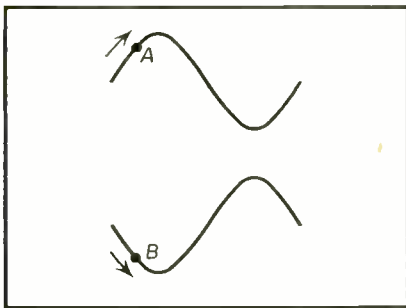

Fig. 2. Signal phase does not affect ear response.
Common troubles in the discriminator circuit follow those previously detailed for the ratio detector. For signal tracing the generator is placed at (1) and ground in Fig. 2, and the presence of d.c. at points (3) and (2), or (2) and (4), indicate the signal is getting through. A further check can be made with earphones at point (5)—the volume control, and at point (6) as detailed for the ratio detector. In order to hear the signal at points (5) and (6), the signal generator must be frequency modulated with an audio tone (usually 400 cps with most generators).
states that the ear is not sensitive to oppositely phased signals. Referring to Fig. 2, point A is increasing in a positive direction. This portion of the signal will move the cone out. At point B, opposite in phase to point A, the signal is increasing in a negative direction. This portion of the signal will pull the cone in. In both instances the ear will be subjected to the same sound. That is to say, if we use either the upper modulating envelope or the lower modulating envelope the same results can be obtained.